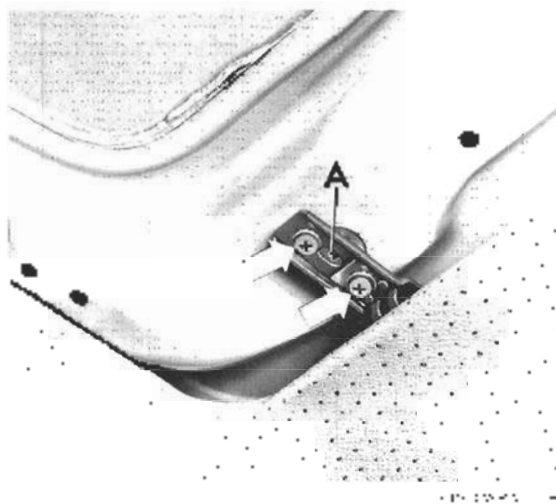

Fig. 8-4. Front guide. The arrows indicate the Phillips head screws with spring washers. The adjusting screw is at A.
5. Loosen the two Phillips head screws with spring washers in each of the two front guides (Fig. 8-4).